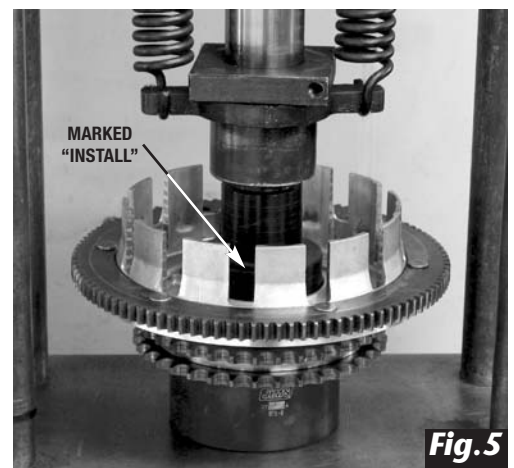

Fig. 5
8. Place No.4, clutch shell pedestal on the press with shallow recessed side facing up. Place the clutch shell on pedestal stand so that the bearing bore area sits squarely on the pedestal. See Fig 5.
on clutch shell and place No.1 bearing installer tool with laser marked "INSTALL" side facing bearing and shell. Line up ram and press bearing into the clutch shell. **See Fig 5.**